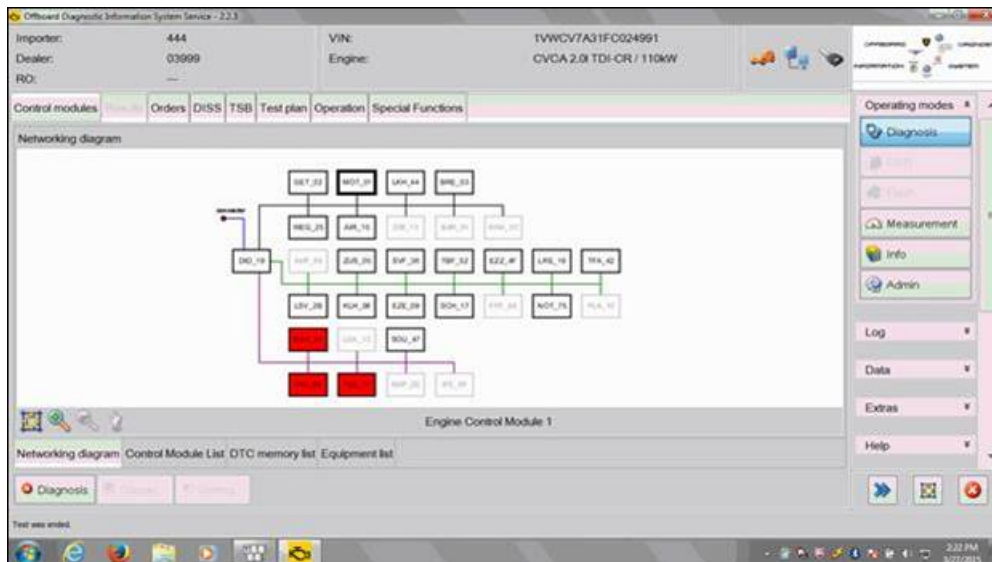

Figure 7
- In the Control Module Networking diagram screen choose “MOT_01” (Figure 7).